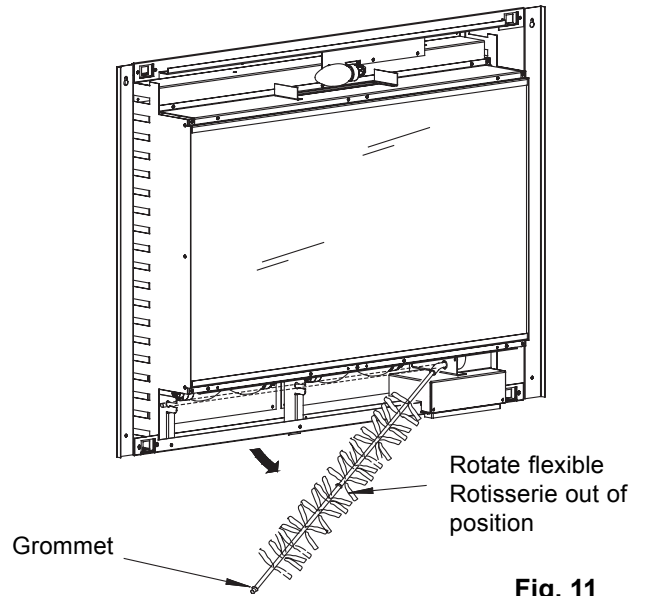

Fig. 11
For access to the bottom bulbs, carefully slide the flexible rotisserie to one side ensuring that the rubber grommets are not lost (see Fig 11).
1. Refit the rotisserie making sure that the rubber grommets are carefully pushed back into the slotted holes on the axial brackets (see Fig 11).